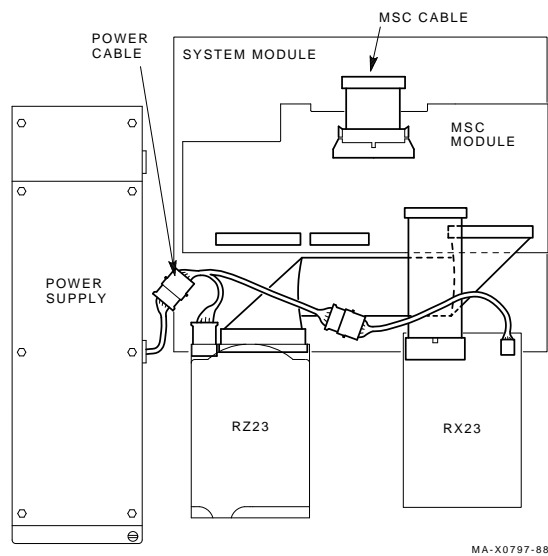
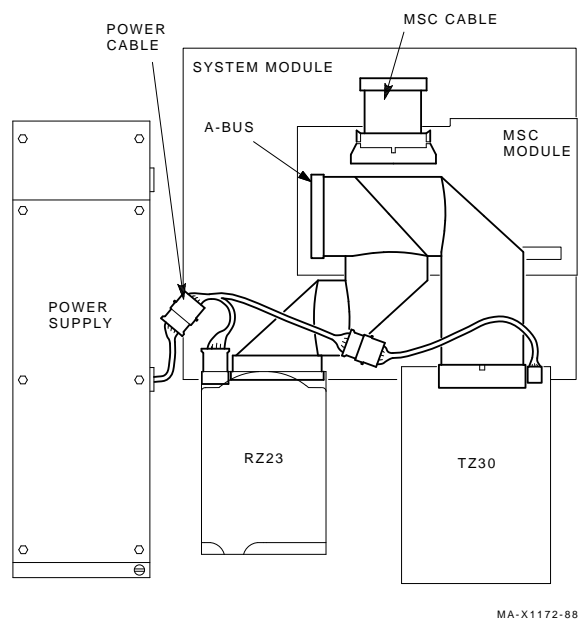

Figure 7-2 Disconnecting the Drive Mounting Plate (ST506/SCSI)
Figure 7-3 Disconnecting the Drive Mounting Plate (SCSI/SCSI)
1. Disconnect the power cable from the power supply and disconnect the MSC cable (Figure 7-2 for a ST506/SCSI MSC module or Figure 7-3 for a SCSI/SCSI MSC module).